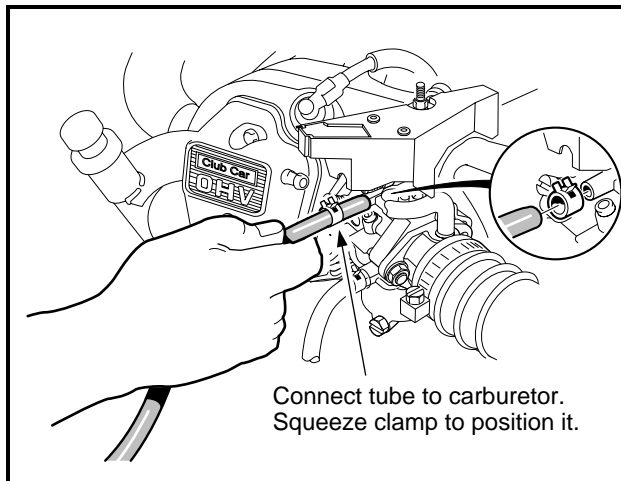

Figure 16-103 Carburetor Tube
28. Connect carburetor vent tube to carburetor and secure with hose clamp (**Figure 16-103, Page 16-39**).